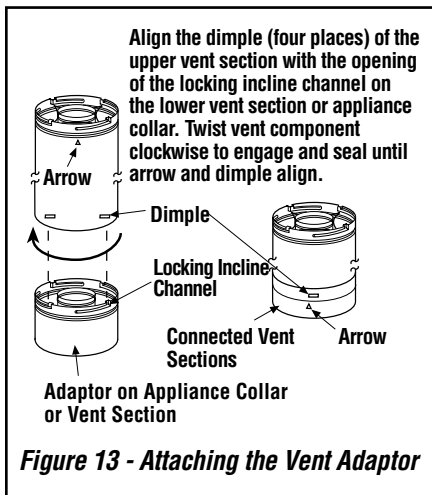

Figure 13 - Attaching the Vent Adaptor
B. Attach adaptor (with probe) to appliance collar - Secure Vent® SV4.5 direct-vent system components are unitized concentric pipe components featuring positive twist lock connections (see Figure 13).
To attach a vent component to the adaptor on appliance collar, align the dimpled end over the adaptor collar, adjusting the radial alignment until the four locking dimples are aligned with the inlet of the four inclined channels on the collar (refer to Figure 13). Push the vent component against the collar until it fully engages, then twist the component clockwise, running the dimples down and along the incline channels until they seat at the end of the channels.
Push the vent component against the previous section until it fully engages, then twist the component clockwise running the dimples down and along the incline channels until they seat at the end of the channels. **This seating position is indicated by the alignment of the arrow and dimple as shown in Figure 13.**
F. Change vent direction to horizontal/inclined run - At transition from or to a horizontal/inclined run, install the SV4.5E45 and SV4.5E90 elbows in the same manner as the straight vent sections. The elbows feature a twist section to allow them to be routed about the center axis of their initial collar section to align with the required direction of the next vent run element. **Twist elbow sections in a clockwise direction only so as to avoid the possibility of unlocking any of the previously connected vent sections (see Figures 13 and 15).**
Secure Vent® SV4.5 direct-vent system components are unitized concentric pipe components featuring positive twist lock connection, (refer to **Figure 13 on Page 16**). All of the appliances covered in this document are fitted with collars having locking inclined channels. The dimpled end of the vent components fit over the appliance collar to create the positive twist lock connection.
D. Attach vent components to appliance - To attach a vent component to the appliance collar, align the dimpled end over the collar, adjusting the radial alignment until the four locking dimples are aligned with the inlets of the four incline channels on the collar (refer to **Figure 13 on Page 16**).
Other vent sections may be added to the previously installed section in accordance with the requirements of the vent tables. To add another vent component to a length of vent run, align the dimpled end of the component over the inclined channel end of the previously installed section, adjusting the radial alignment until the four locking dimples are aligned with the inlets of the four incline channels of the previous section. Push the vent component against the previous section until it fully engages, then twist the component clockwise running the dimples down and along the incline channels until they seat at the end of the channels. **This seating position is indicated by the alignment of the arrow and dimple as shown in Figure 13 on Page 16.**
H. Change vent direction - At transitions from or to a horizontal/inclined run, install the SV4.5E45 and SV4.5E90 elbows in the same manner as the straight vent sections. The elbows feature a twist section to allow them to be routed about the center axis of their initial collar section to align with the required direction of the next vent run element. **Twist elbow sections in a clockwise direction only so as to avoid the possibility of unlocking any of the previously connected vent sections (see Figure 13 on Page 16).**